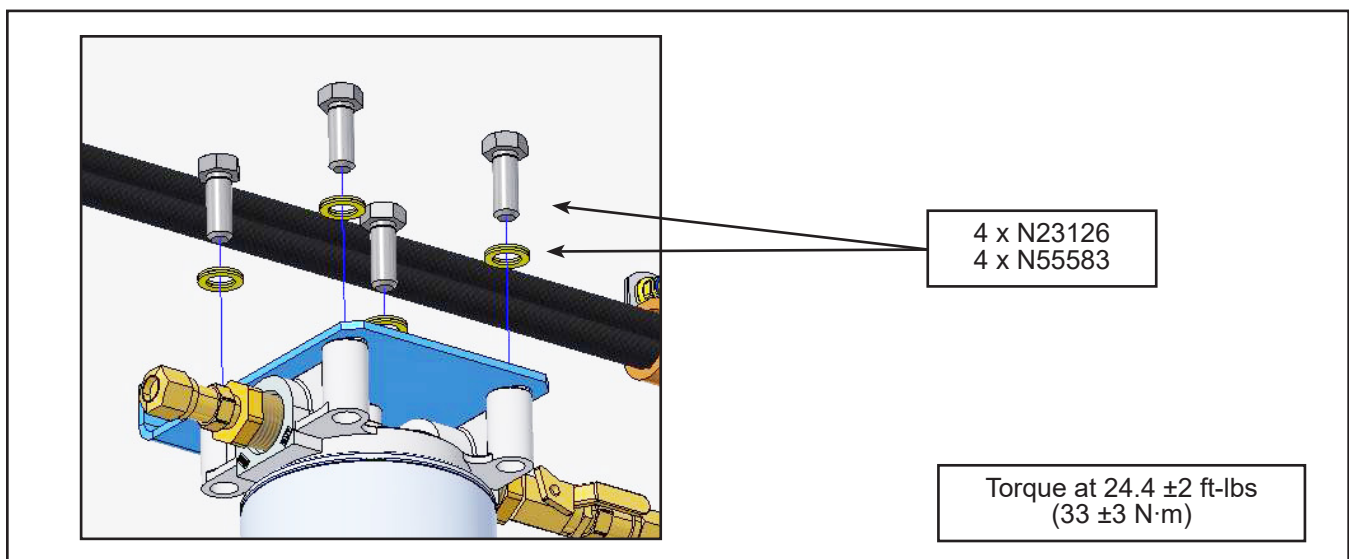

Figure 5 - Mount the Fuel Filter Assembly on the Support Bracket
1.10. Mount the new fuel filter assembly on the support bracket with 4 screws and 4 washers. Validate orientation and torque at the torque value shown in Figure 5.